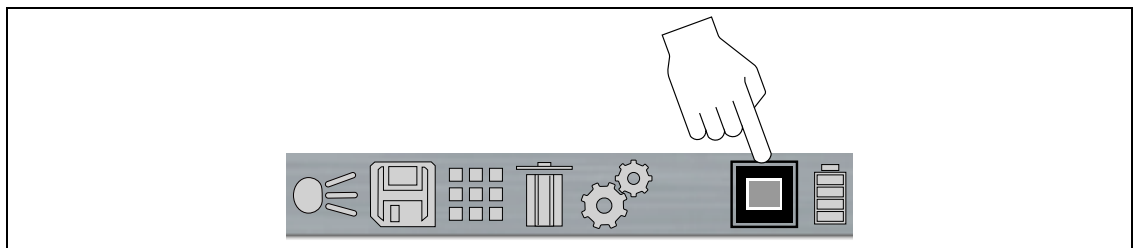

Figure 4-2
When using any of the blended thermal opacity modes, the Opacity Level icon in the toolbar indicates the current opacity level (Figure 4-2).
1. To use Laser Spot Temperature mode, press the **Down ▼** control button repeatedly until **“Press TRIG to start measurement”** is displayed on the screen and the Laser icon displays in the toolbar (Figure 4-2).
The “X” in the laser icon (Figure 4-2) indicates the laser pointer is off. When the trigger is pulled, the laser pointer turns on and the “X” is not displayed in the icon.
The target indicator in the center of the screen (Figure 4-2) measures the Center Region Temperature (Average). The Center Region Temperature (Average) is dynamically indicated within the color palette range indicator (Figure 4-2).
The color palette range indicator shows the complete temperature range of the active measured scene with the minimum and maximum temperature values (arrows Figure 4-2) of the scene. It is normal for the min/max temperature values to constantly change.